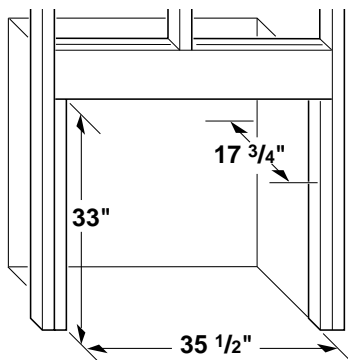

Figure 16 - Rough Opening for Installing in Wall
1. Frame in rough opening. Use dimensions shown in Figure 16 for the rough opening.